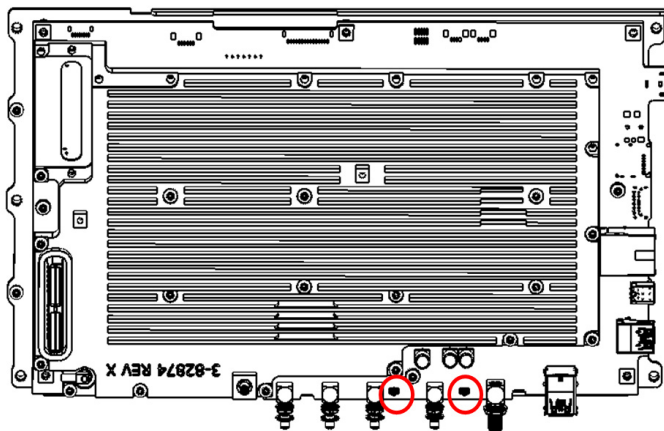

**Figure 5-15.** Removing Wi-Fi Antennas
1. Using a small pliers, gently lift up on the Wi-Fi Antenna connectors shown in Figure 5-15.